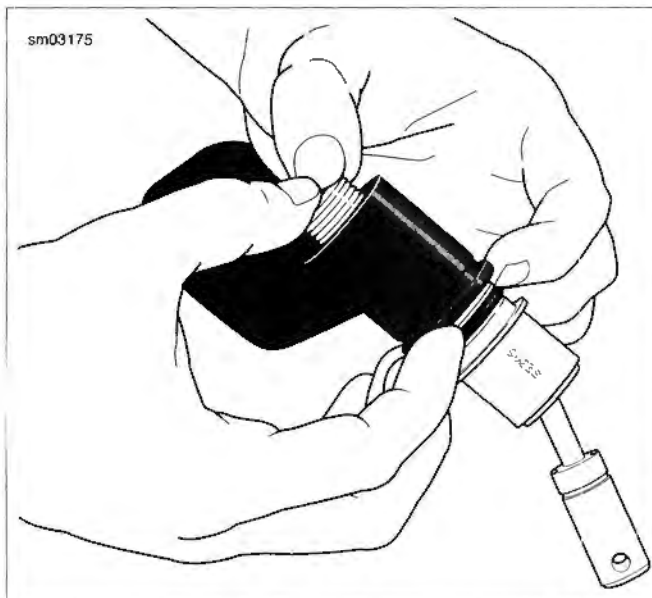

Figure 2-49. Removing Cartridge
5. See Figure 2-49. Push on threaded end of cartridge body to remove from reservoir adapter. Use hand pressure only. Exercise care to keep cartridge body free of dirt and grease.